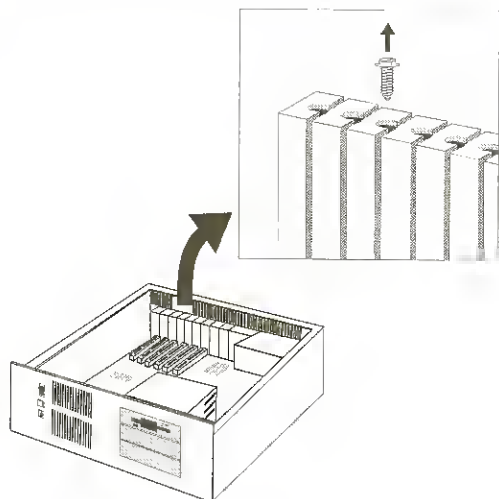

Figure 2-6: Remove metal plate from slot.
5. Remove the metal plate from the expansion slot you have chosen as shown in Figure 2-6. Put the screw aside.